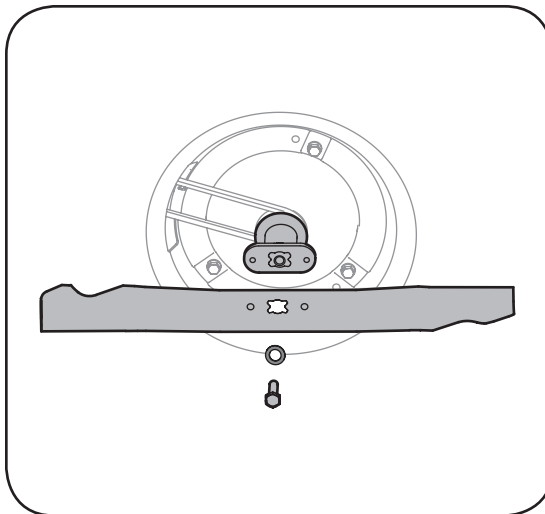

Figure 5-2: Removing blade and hardware.
2. Remove bolt, bell washer, blade, and blade adapter from the engine crankshaft. See Figure 5-2.